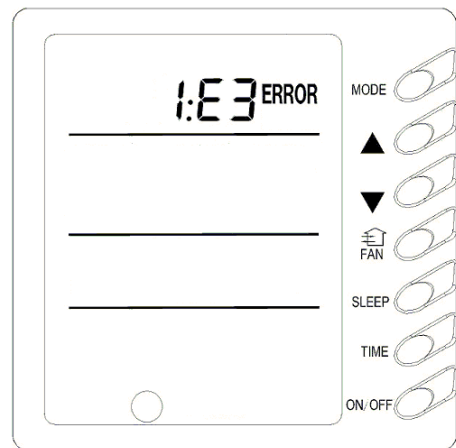

Fig.21
13) Malfunction Display (Fig.21)